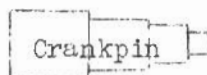

Figure 24
10. THE CRANKPIN (Figure 24) is a pin to which the main driving rod, the side rod and the eccentric crank are attached. The side rod is connected to the front driving wheel by a side rod pin.